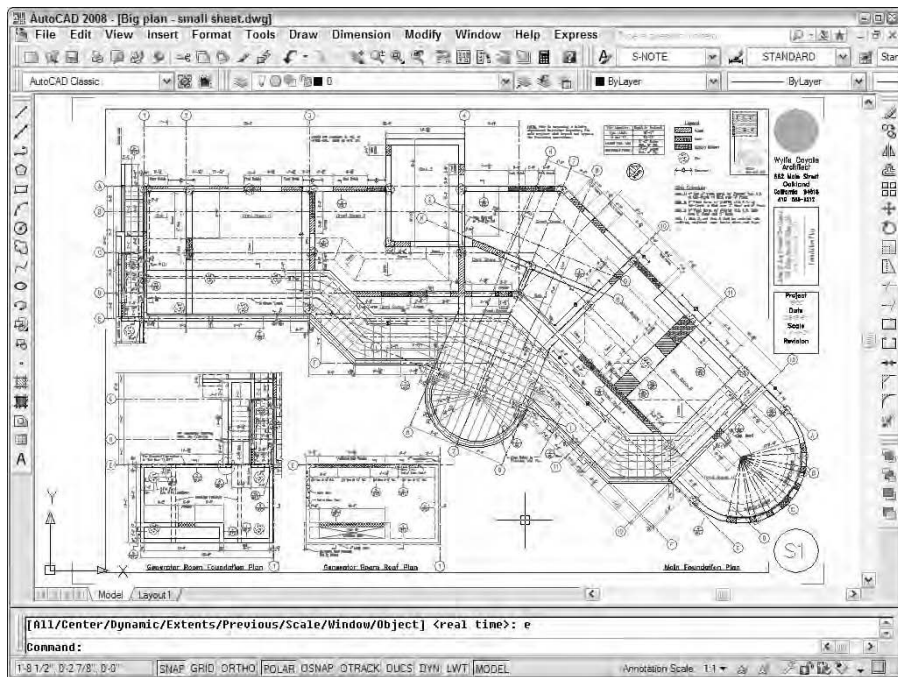

Figure 4-3:
- ✓ Most drawings require some annotations — text, grid bubbles, and so on — outside the objects you're drawing, plus a title block surrounding the objects and annotations. If you don't leave some room for the annotations and title block, you'll end up having to cram things together too much or change to a different sheet size. Either way, you'll be slowed down later in the project, when you can least afford it. Figure 4-3 shows an extreme example of selecting a sheet size that's too small or, conversely, a drawing scale that's too large. In this example, the building is too long for the sheet, and it overlaps the title block on both the right and left sides.